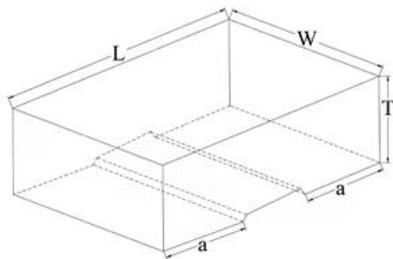
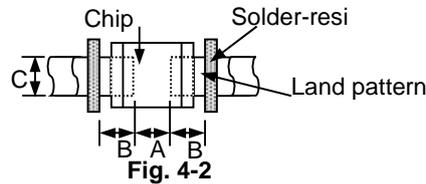

Fig. 4-1
Fig. 4-2
4.1 Dimensions and recommended PCB pattern for reflow soldering: See Fig.4-1, Fig.4-2 and Table 4-1.